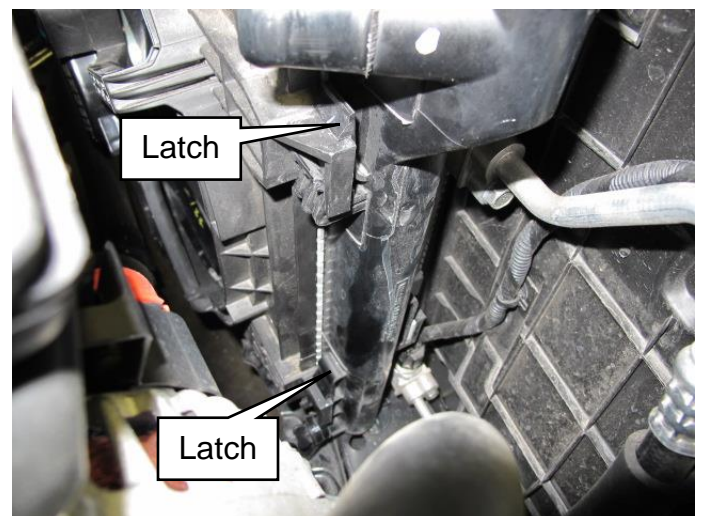

Figure 21
27. Remove the fan shroud and motor assembly (Refer to Figure 21).
- Push in (4) retaining latches (2 on each side) to release the fan shroud and motor assembly from the radiator.